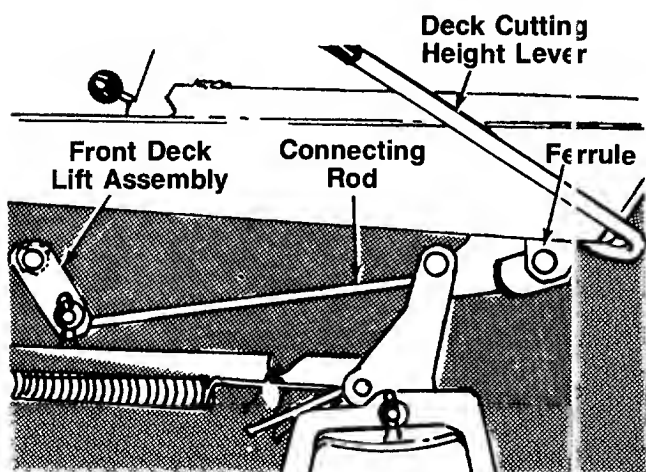

FIGURE 25.
2. Remove the hairpin cotter and flat washer which hold the deck lift connecting rod to the front deck lift assembly. See figure 25.
3. Remove the connecting rod from the deck lift assembly and thread it in or out of the ferrule as necessary. See figure 25. Replace the rod.